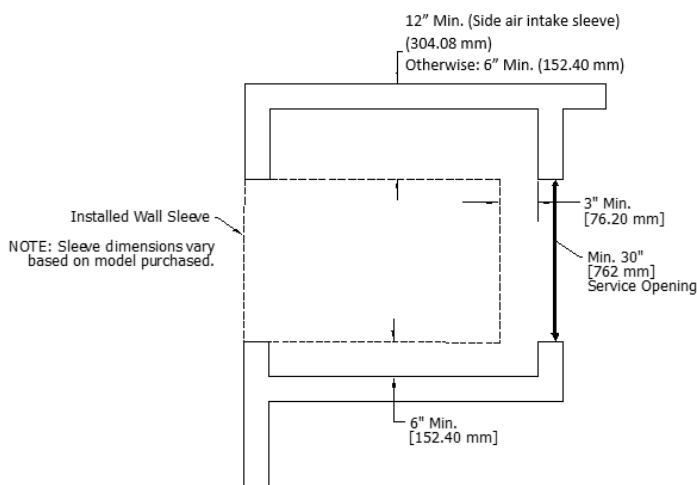

FIGURE 14 - Rear Installation
- Sleeve rough-in opening is 43-1/2 in. (H) [110.49 cm] x 26-3/4 in. (W) [67.94 cm].
- Minimum of 3 in. [7.62 cm] of clearance is required on all sides, except ERV fresh air (supply air) side, of the FRESH-PAK unit. See -FIGURE 14- Rear Installation.